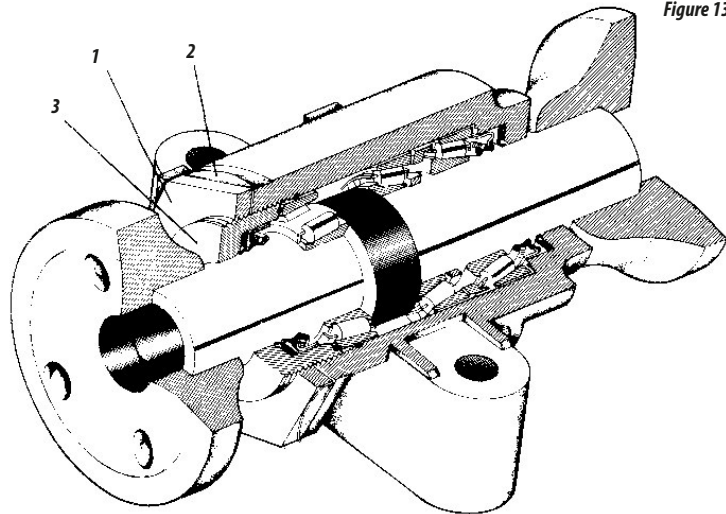

Figure 13
- 01 - Remove the washer Item 1 Figure 13.
- 02 - Loosen the screws item 2 and remove the cover item 3.
- 03 - Remove 1 or 2 gaskets item 4 from the bearing cover.
- 05 - If the clearance persists, you can face the cover item 3, to increase the adjustment, and then assemble the bearing using as many gaskets as required.